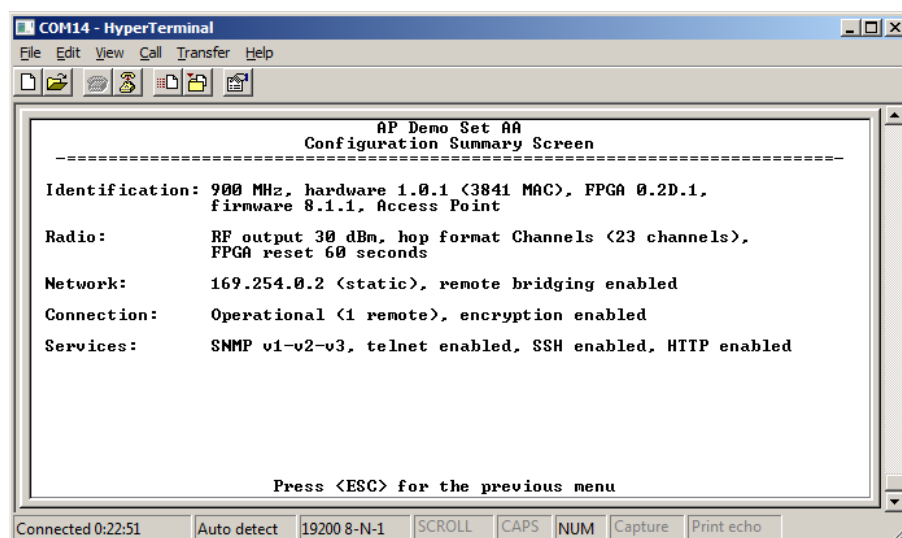
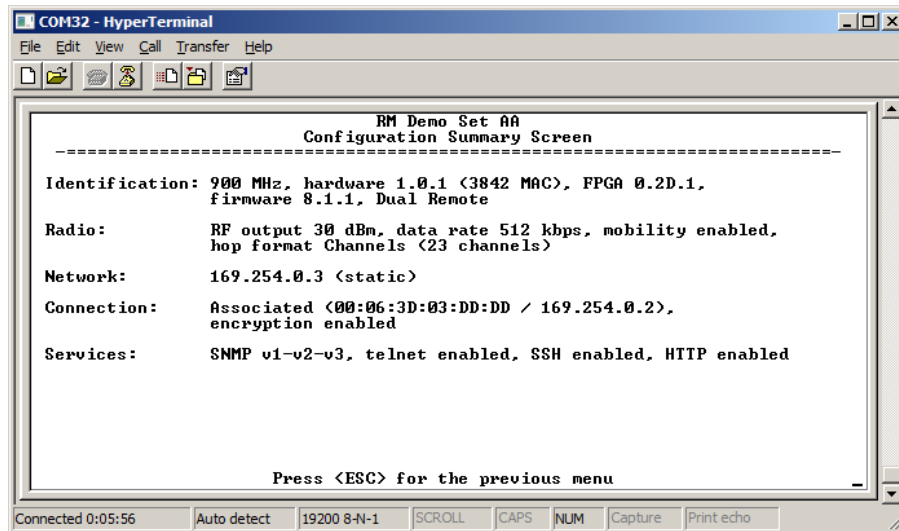

Figure 2-10. Configuration Summary Screen (iNET-II AP)
Figure 2-11. Configuration Summary Screen (iNET-II Remote)
- **Configuration Summary**—High-level view of configured system parameters. This shows parameters that are currently enabled or being used. View Figure 2-10 below and Figure 2-11 on Page 24 for details.